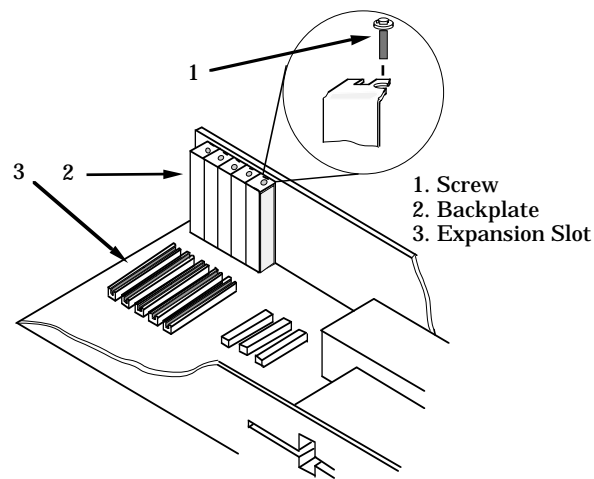

Figure 2-6. Backplate Detail
- Remove the backplate (2, Fig. 2-6) from the selected slot (3) by removing the screw (1) holding the backplate in place, and sliding the backplate out of the slot as shown in Figure 2-6.